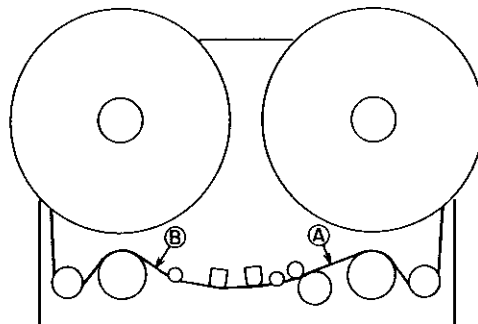

Fig. 4.10
- 2) Put the R-8 in the PLAY mode, and measure the Take Up tape tension at point (A) with tape tension gauge as shown in the Fig. 4.10.
- 3) Measure the Supply tape tension at point (B) with tape tension gauge as shown in the Fig. 4.10. Adjust the pot R203 located on the system control PCB so that the Supply tape tension is 60g (2.2 ozs.).
- 4) Set EOT position (End Of Tape). Check and confirm that the Take Up tape tension at point (A) is 60g ~ 30g (2.2 oz ~ 1.0 oz) and Supply tape tension at point (B) is 70g ~ 30g (2.5 oz ~ 1.0 oz).